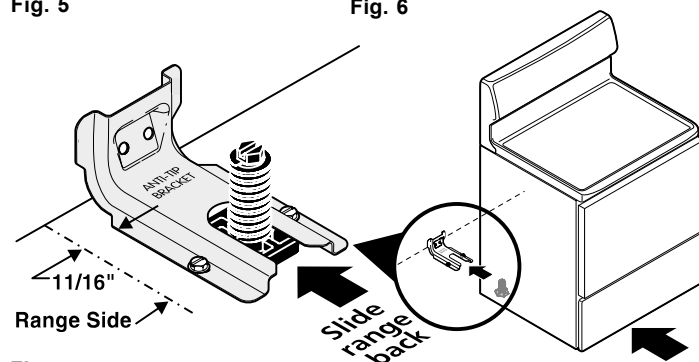

Fig. 7
1c. Level and Position Range - Level range by adjusting the (4) leveling legs with a wrench. **Note:** A minimum clearance of 1/8" is required between the bottom of the range and the leveling leg to allow room for the bracket. Use a spirit level to check your adjustments. Slide range back into position (See Fig. 7). Visually check that rear leveling leg is inserted into and fully secured by the Anti-Tip Bracket by removing lower panel or storage drawer. For models with a Warmer Drawer or broiler compartment, grasp the top rear edge of the range and carefully attempt to tilt it forward.
Carefully slide range into final position while inserting rear leveling leg into and FULLY ENGAGING THE ANTI-TIP BRACKET (See Fig. 7). Make sure the power cord folds into the remaining open floor area behind the range Warmer or storage drawer. Be sure to check the level of the range.